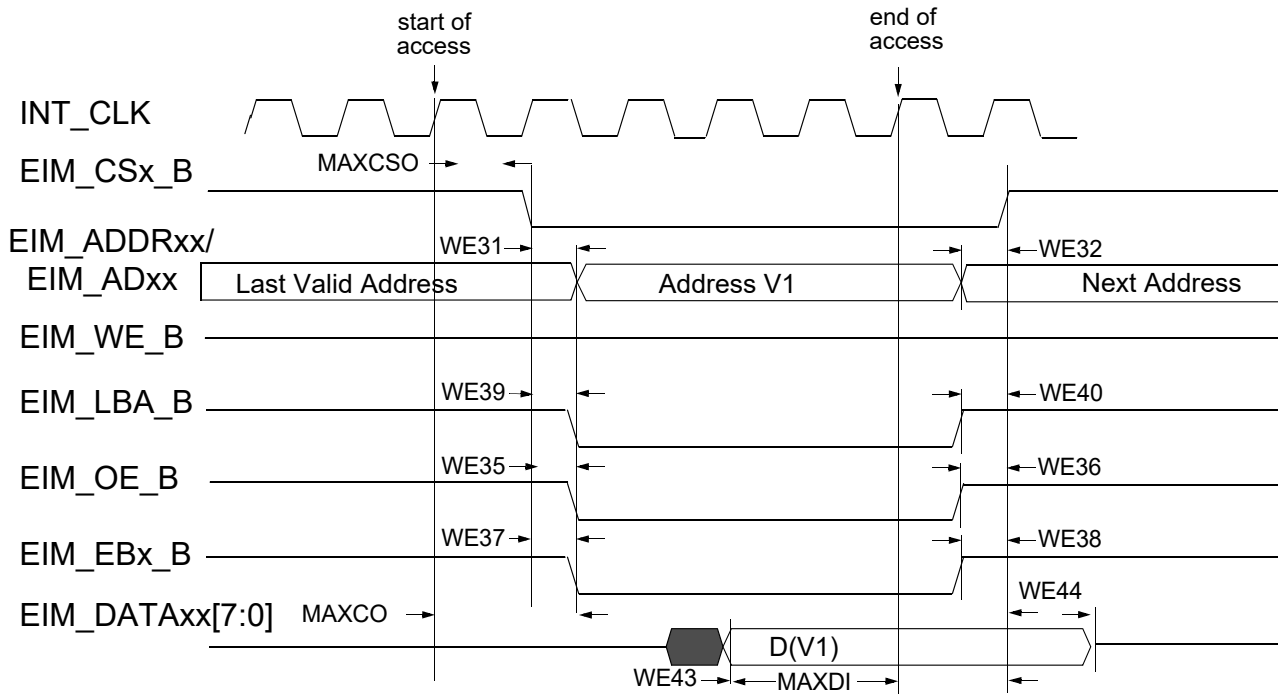
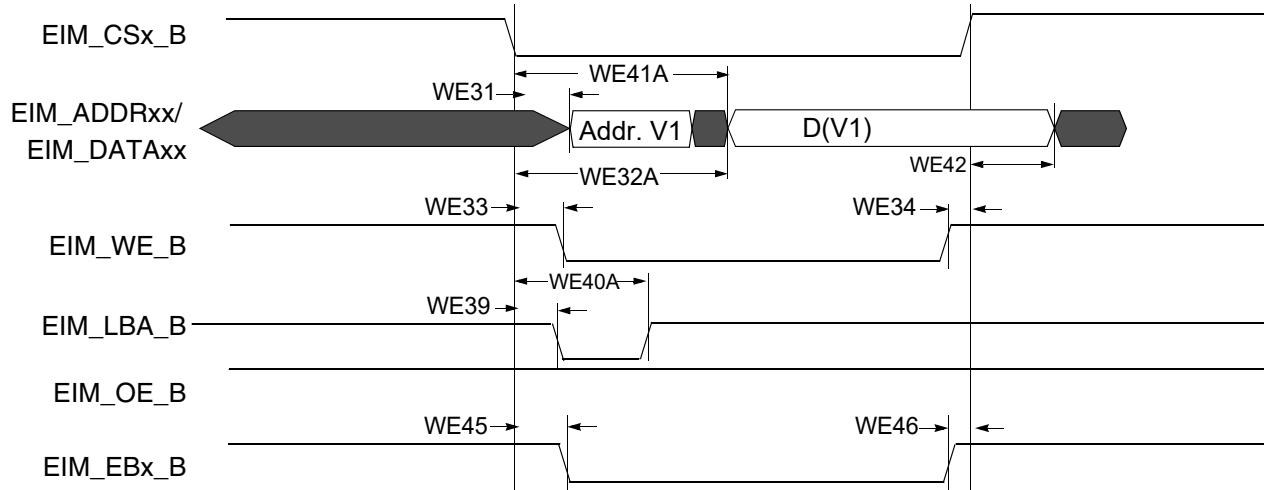
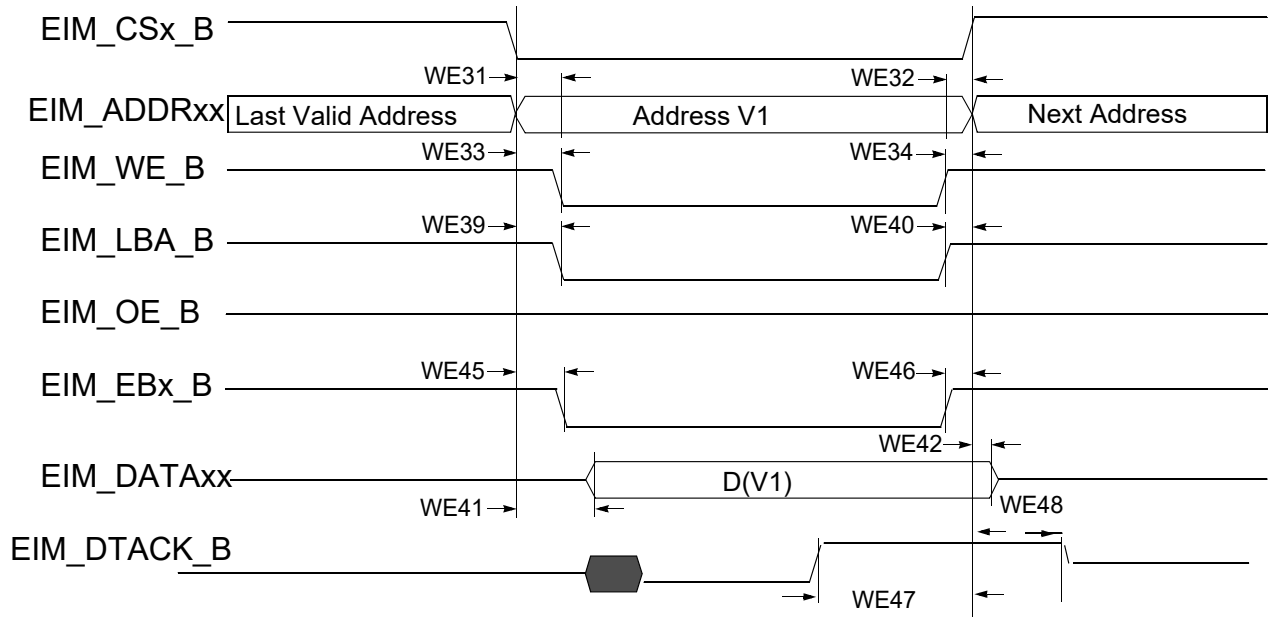

Figure 16. Asynchronous Memory Read Access (RWSC = 5)
Figure 19. Asynchronous A/D Muxed Write Access
Figure 21. DTACK Mode Write Access (DAP=0)
Figure 16 through Figure 21, and Table 45 help you determine timing parameters relative to the chip select (CS) state for asynchronous and DTACK EIM accesses with corresponding EIM bit fields and the timing parameters mentioned above.
Asynchronous read and write access length in cycles may vary from what is shown in Figure 16 through Figure 19 as RWSC, OEN and CSN is configured differently. See the *ii.MX 6SoloX Applications Processor Reference Manual (IMX6SXR)* for the EIM programming model.